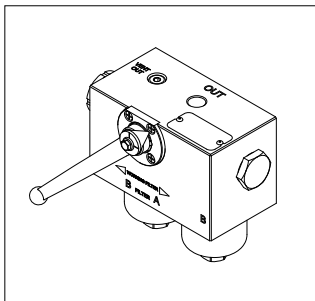

fig. 1
- (Fig. 1) Establish which filter side is in operation (WASTE SIDE) by referring to the indications on the head front. The switching lever is oriented to the side of the filter which is not in operation (NEW SIDE)